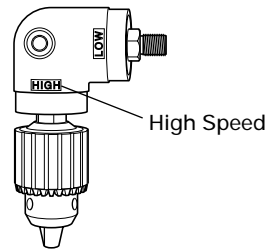

Fig. 11
- To operate the angle unit at high speed, attach the chuck to the angle unit spindle at the side marked "HIGH" and secure the locking screw. At this setting, the drilling speed is increased to about 150% and the drilling torque decreased to about 70%. (Fig. 11)